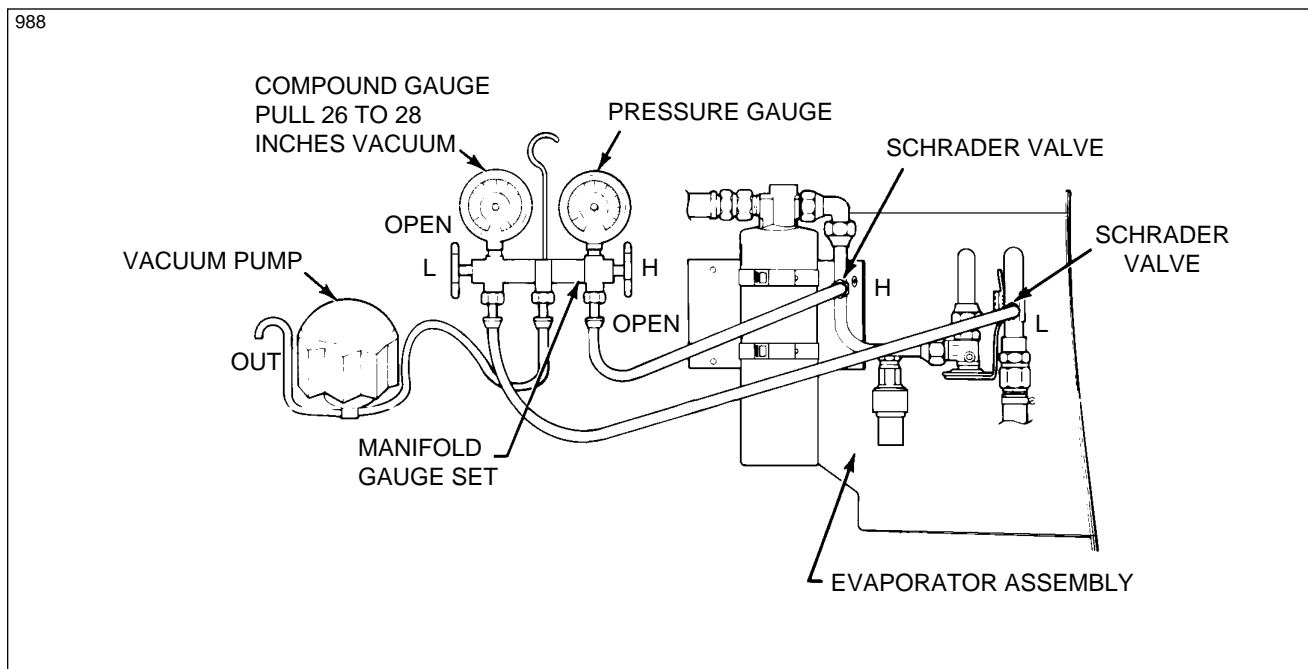

Figure 21-25. Evacuation Hookup
1. Connect the manifold gauge set into the system and determine if there is any refrigerant in the system. A minimum of 50 psi refrigerant pressure in the system is needed for leak detection. (Refer to Figure 21-25.)
2. Connect the manifold gauge set to the airplane service valves. (Refer to Figure 21-25.)